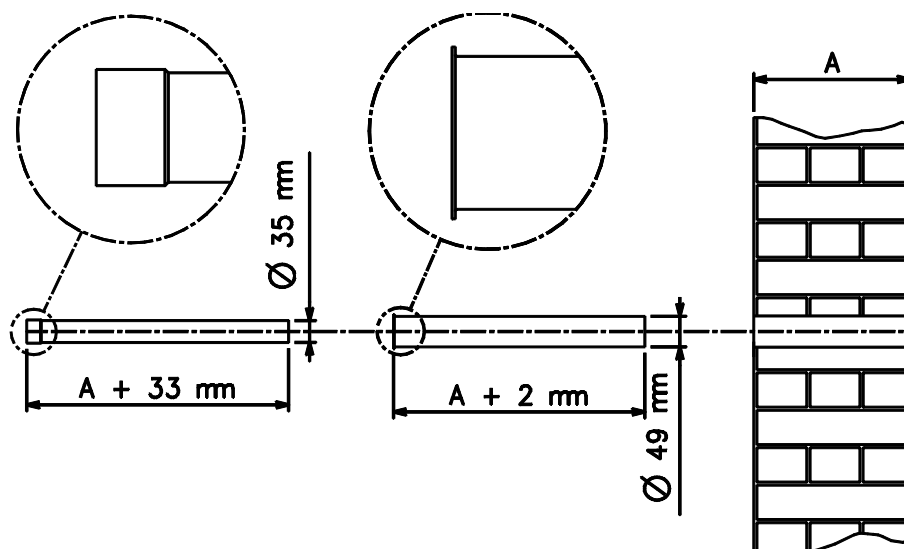

Figure 5 – Instructions for cutting the combustion air/flue pipes
5. Cut the air intake and flue pipes to length taking into account the thickness of the installation wall: to determine the exact length see the diagram in Figure 5.